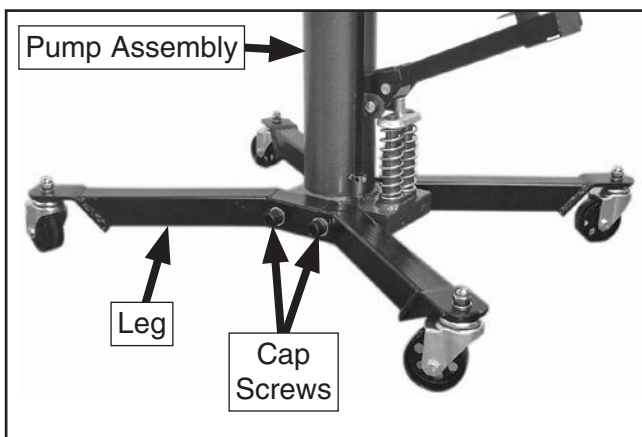

Figure 4. Legs attached to pump assembly.
2. Attach each leg to pump assembly with (2) M16-1.75 x 70 cap screws, 16mm flat washers, and 16mm lock washers (see **Figure 4**).